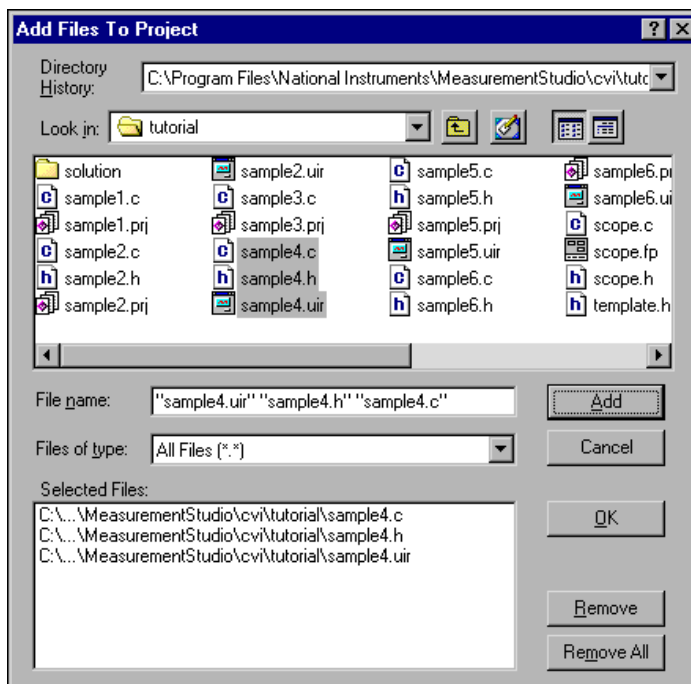

Figure 6-4. Add Files to Project Dialog Box
3. Select `sample4.c`, `sample4.h`, and `sample4.uir` from the dialog box by double-clicking on each file. The filenames appear in the Selected Files section of the dialog box shown in Figure 6-4.